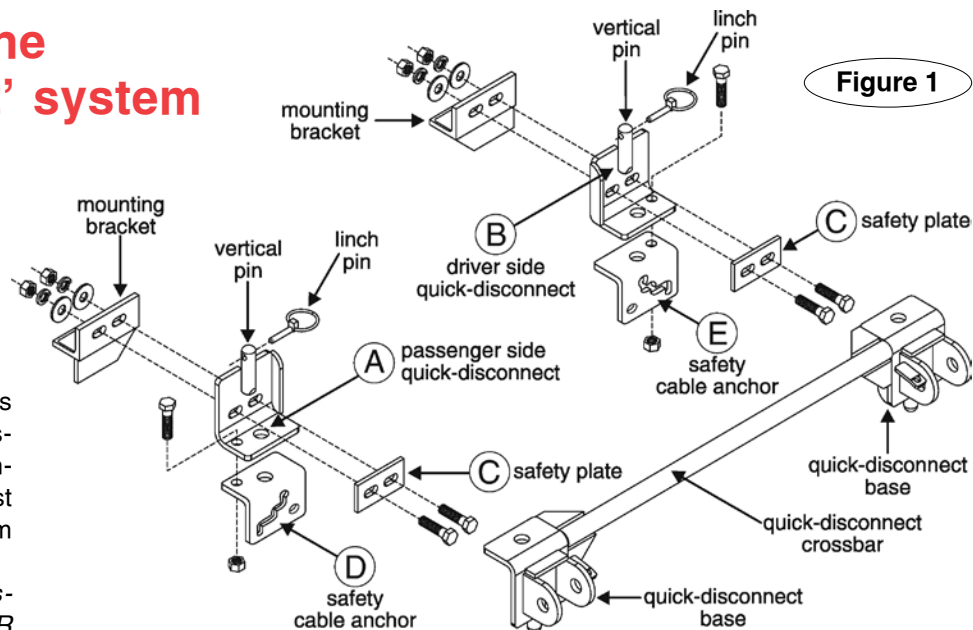

Figure 1
1. First, attach the quick-disconnects ("QDs," parts "A" and "B" in Figure 1) to the tow bar mounting brackets. Attach the QDs so that the vertical pin on each is pointing up, as shown in Figure 1.
Attach part "A" on the passenger side, and part "B" on the driver's side. Use the supplied $\frac{1}{2}$ " x $1\frac{1}{2}$ " bolts, the two safety plates (parts "C"), and the flat washers, lock washers and nuts, as shown in Figure 1.
Both QDs have cable anchors – parts "D" and "E" in Figure 1 – designed for safety cable attachment. Bolt cable anchor "D" to part "A," and cable anchor "E" to part "B," as